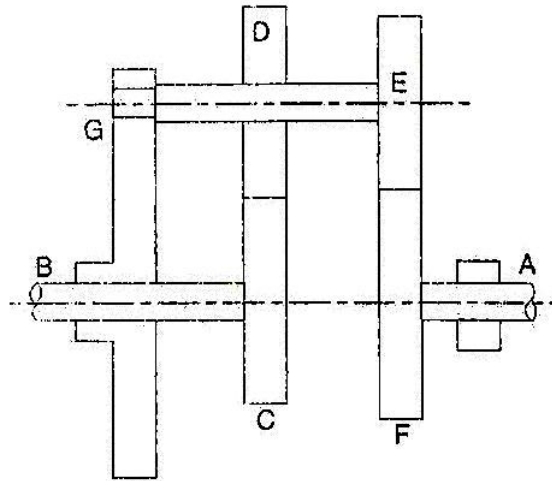

Fig. Q. 9 (b)
- b) In an epicyclic gear train shown in fig. Q. 9(b) the wheel C is keyed to the shaft B and wheel F is keyed to shaft A. The wheels D and E rotate together on a pin fixed to the arm G. The number of teeth on wheels C, D and E are 35, 65 and 32 respectively. If the shaft A rotates at 66 rpm and the shaft B rotates at 28 rpm in the opposite direction. Find the speed and direction of rotation of arm G. **10**